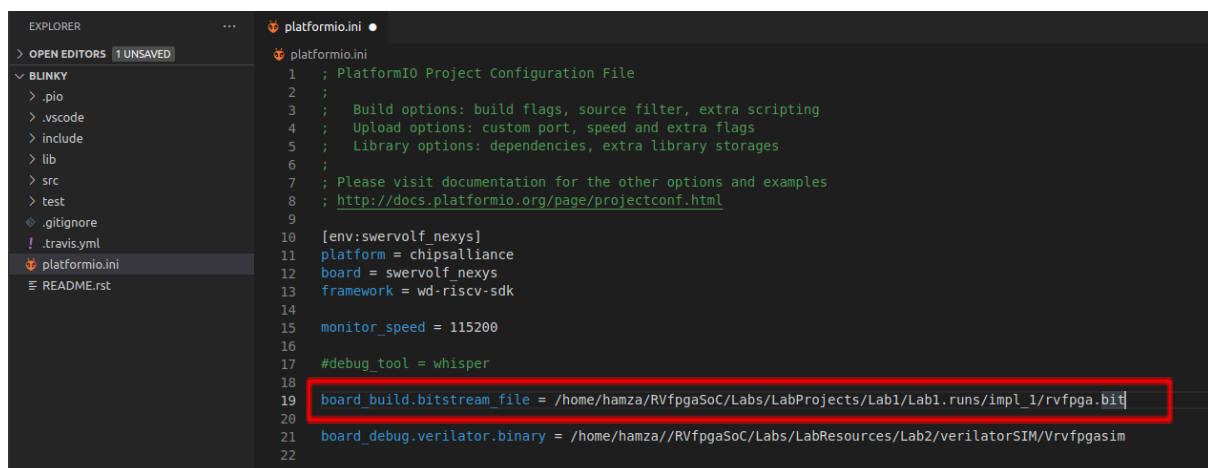

Figure 19. Platformio initialization file: platformio.ini
Step 6. Open file *platformio.ini* by clicking on *platformio.ini* in the left sidebar (see Figure 19). Establish the path to the RVfpga bitstream in your system by editing the following line (see Figure 19).